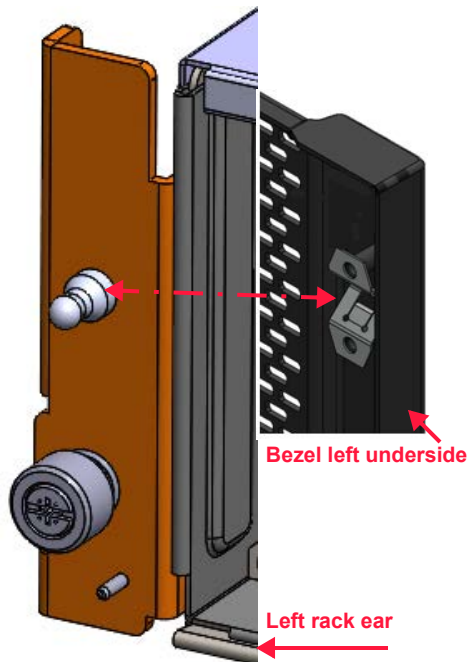

Figure 4.24 Bezel installation
2. Push the bezel into the right side of the right rack ear. The stud should join the retention clip inside the right side of the bezel cover (see Figure 4.24).
**NOTE:** Only the left side rack ear and bezel underside are shown in Figure 4.24. The right side is a mirror image of the left.